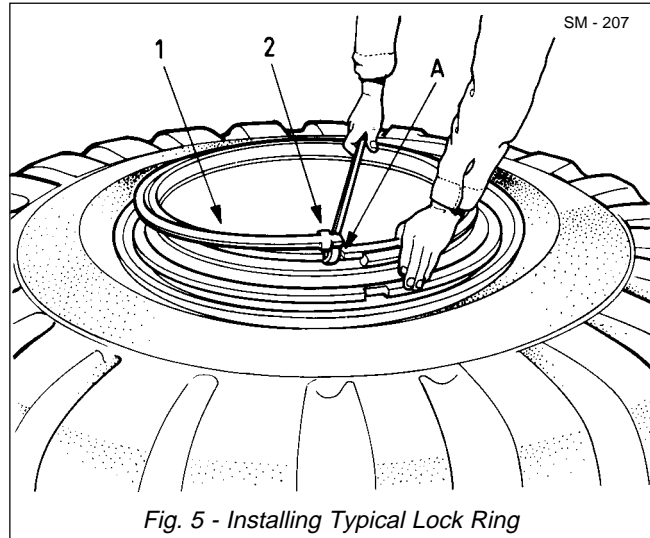

Fig. 5 - Installing Typical Lock Ring
5. Install outer flange (1) on rim (4).
6. Install bead seat band (2) on rim (4).
7. Install lock ring (3) in groove of rim (4). Use pry bar for this operation, as illustrated in Fig. 5.
8. Force bead seat band (2) past 'O' ring groove in rim (4) by prying, or with lift truck forks. Use blocking between the forks and tyre to prevent tyre damage. Lubricate area of rim adjacent to 'O' ring groove with a thin solution of soap and water or another approved lubricant which is not harmful to rubber. Avoid using an excessive amount